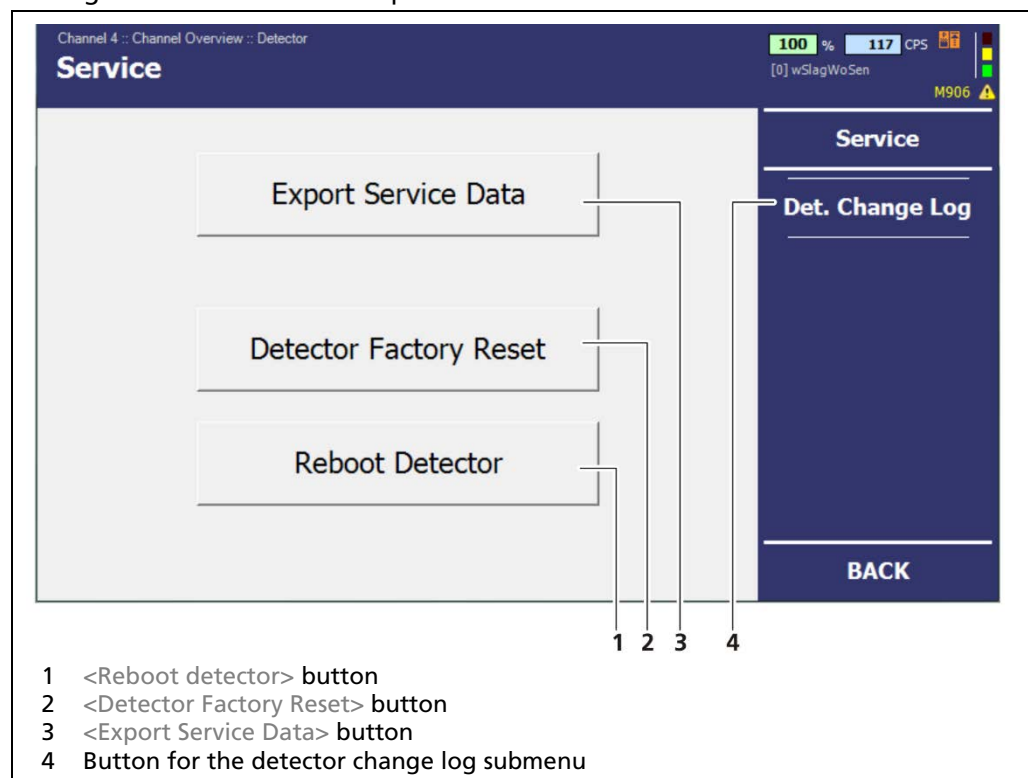

Fig. 21 "Detector, Service" menu
2. Click on <Export Service Data> (Fig. 21, Pos. 3), to save the service data on the USB flash drive.
1. Click on **<Detector Factory Reset>** (Fig. 21, Pos. 2) if you want to reset the CONGAUGE detector to its factory settings.
1. Click on **<Reboot detector>** (Fig. 21, Pos. 1) in order to reboot the CONGAUGE detector LB 6755.